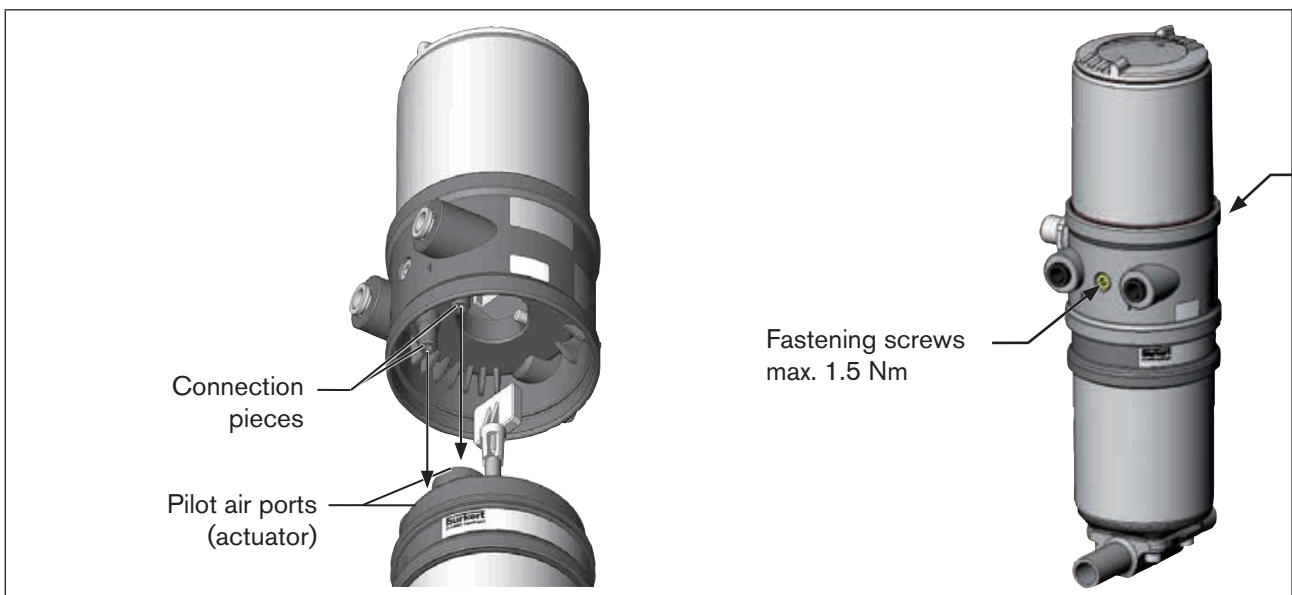

Figure 20: *Installation of the positioner*
2. the connection pieces of the positioner can be inserted into the pilot air ports of the actuator (see also "Figure 20").